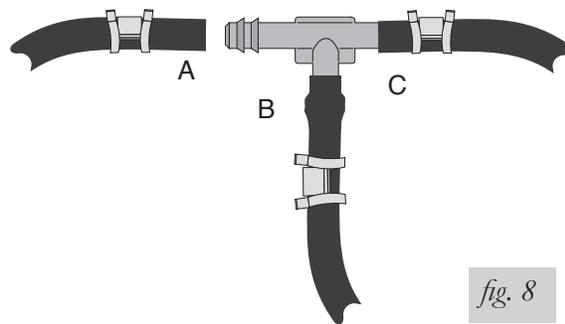

fig. 8
3. Push the air line over one side of the tee until all the barbs are covered. With a pair of pliers, slide the air line clamp forward until it fully covers the barbed section. Repeat the entire procedure for the other leg of the tee (fig. 8).